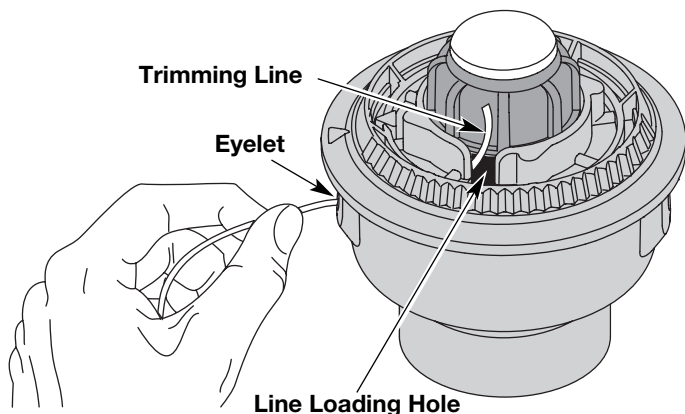

Fig. 18
3. Pull old line out of the line loading and line locking holes (Fig. 18 and 19)
loading hole in the inner reel (Fig. 18). Do not bend the line when inserting it into the eyelet.